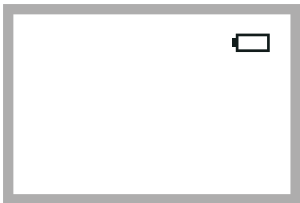

Figure 10
- Replace battery when "  " appears in the upper right corner of LCD display. (See Figure 10)